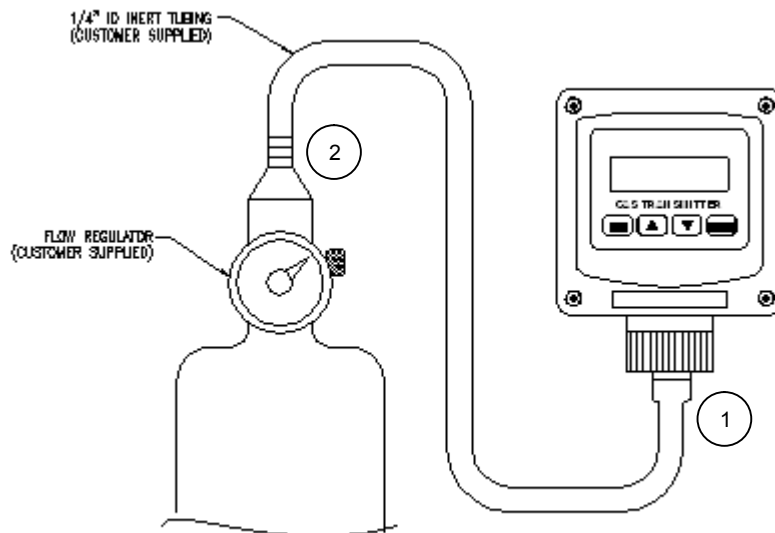

Figure 47 - Span calibration
Referring to Figure 47, slip the calibration adapter onto the exposed end of the sensor and connect one end of the tubing (1), connect the other end of tubing to the cylinder’s regulator (2). Do not open the gas valve until instructed below.